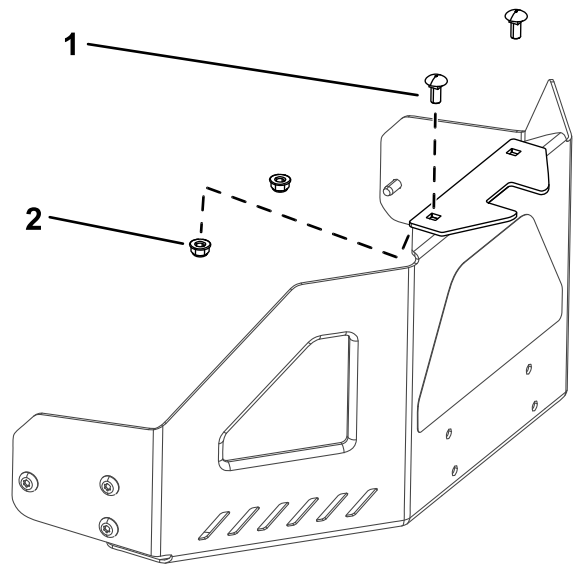

Figure 5
1. Install the stabilizer bracket to the engine guard using 2 carriage bolts (5/16 x 3/4 inch) and 2 locknuts (5/16 inch) (Figure 5).